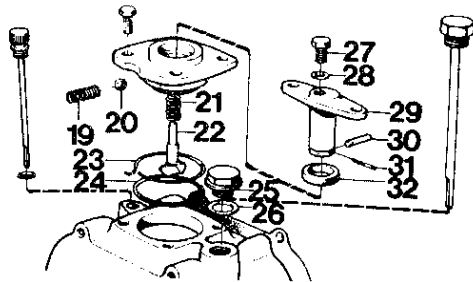
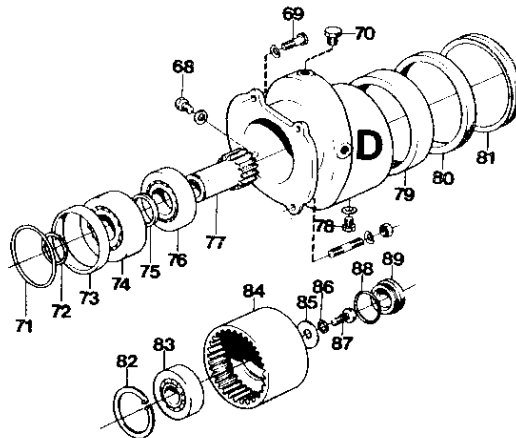
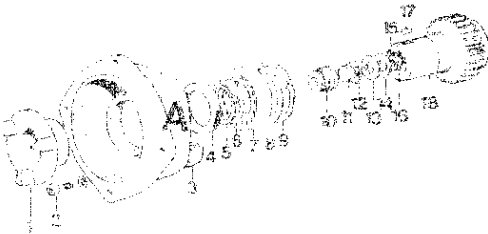

Fig. 8
Fig. 9
Fig. 14
1. Knock out the tensioning pin (31, Fig. 8) and pull out the pin (30). Remove the lock wire, the springs (19) and the balls (20) (the earlier type of reverse gear has only one spring and ball). Pull out the eccentric plunger (29). Remove the sealing ring (32).
**Control mechanism (Fig. 8) MS, MSB**
1. Fit the sealing ring (32) in the cover, and make sure the side with the spring faces inwards. Always use a new ring.
2. Fit the eccentric plunger (29). Fit the pin (30) and lock it with the tensioning pin (31). Make sure that the tensioning pin is in the middle of the eccentric plunger.
3. Fit the balls (20) and the springs (19). Insert a lock wire in the cover groove and clamp it tight with the springs. Cut off the wire and bend down the end into the cover recess. The function of the lock wire is only to hold the springs in position while installing the control mechanism in the gear housing.
4. Fit the slide cone (22), the spring (21) and the O-ring (24).
**Reduction gear (Fig. 9) MS, MSB**
1. Press the large bearing (79) into the gear housing with drift 884488.
2. Apply a little grease to the sealing ring (80) and press the ring in with drift 884488.
3. Press the bearing (83) into the gear wheel (84) with the help of drift 884488. Carefully press the gear wheel through the sealing ring (80). Tap down the gear wheel with a rubber mallet so far that the screw (87) can be screwed in together with the flat washer and a new lock washer. Tighten to a torque of 55 Nm (5.5 kpm = 40 lbfft). Screw in the plug (89) after having changed the O-ring (88). Fit the large sealing ring (81) which is filled with grease.
4. Press the bearings (74 and 76) as well as the spacer ring (75) on the gear wheel (77) with the help of drift 884263. Do not fit the circlip until the entire assembly has been fitted in the housing. Turn the housing and press down the gear wheel together with the bearings with the help of drift 884500. Turn the gear wheel while pressing in so that it "meshes". Fit the circlip (72).
5. Place the spacer ring (73) and any shims (71) in the housing.
2. Press the bearing (7, Fig. 14) into the front housing with the help of drift 884500.
3. Fit the shim (8), which is available in two thicknesses: 0.05 and 0.10 mm (0.002 and 0.004"). Secure the bearing with the circlip (9). Select shim thickness so that max. clearance is 0.05 mm (0.002"). Fit a number of shims until there is no clearance. Then remove a shim with thickness 0.05 mm (0.002").
4. Press the gear wheel (18) into the bearing with the help of drift 884263. NOTE! The counterhold (tool 884488) must be placed against the bearing inner ring.
5. Check the thickness and number of shims (6). Add shims and secure the gear wheel with the circlip (5). Choose the shim thickness so that there is a max. clearance of 0.05 mm (0.002"). Add shims until there is no clearance left. Then remove a shim with thickness 0.05 mm (0.002").
6. To protect the sealing ring (4) when installing, first place sleeve 884486 on the shaft end of the gear wheel. Apply a little grease to the sealing ring and fit it (the side with the spring should face the bearing). NOTE! The sealing ring may only be pushed in so far that it is flush with the edge of the housing. Remove the sleeve and fit the key (17) securely.
1. Screw tight the control mechanism in the gear housing so that the bolt (27, Fig. 8) in the eccentric plunger is displaced towards starboard.
2. Screw loose the bolt (27) and remove all the shims (28). Screw tight the bolt and place the mechanism in neutral. Try rotating the shaft (42). Note! To make sure that the engaging sleeve will rotate with the shaft, the output shaft then must be rotated. Remove one shim at a time until the shaft can be rotated without resistance. After the adjustment, apply sealing agent to the shims and bolt and then assemble.
3. Fit the key (17, Fig. 14) on the drive (18). Heat the flange (1) to about 150°C (302°F) and fit it.